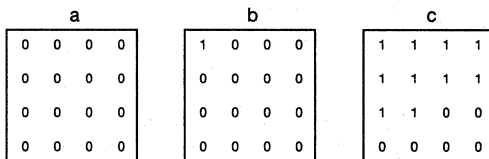

Figure 1 Addressing method of for 16 bit memory in the Marching pattern
- (1) Clear all bits. See Fig. 1 (a).
- (2) Read "0" from 0th address and check that the read data is "0". Hereafter, "Read" means "checking and judging data"
- (3) Write "1" on 0th address. See Fig. 1 (b).
- (4) Read "0" from 1st address.
- (5) Write "1" on 1st address.
- (6) Read "0" from nth address.
- (7) Write "1" on nth address. See Fig. 1 (c).
- (8) Repeat (6) to (7) to the last address. Finally, all data will be "1".
- (9) After all data is "1", repeat from (2) to (8) replacing "0" and "1".